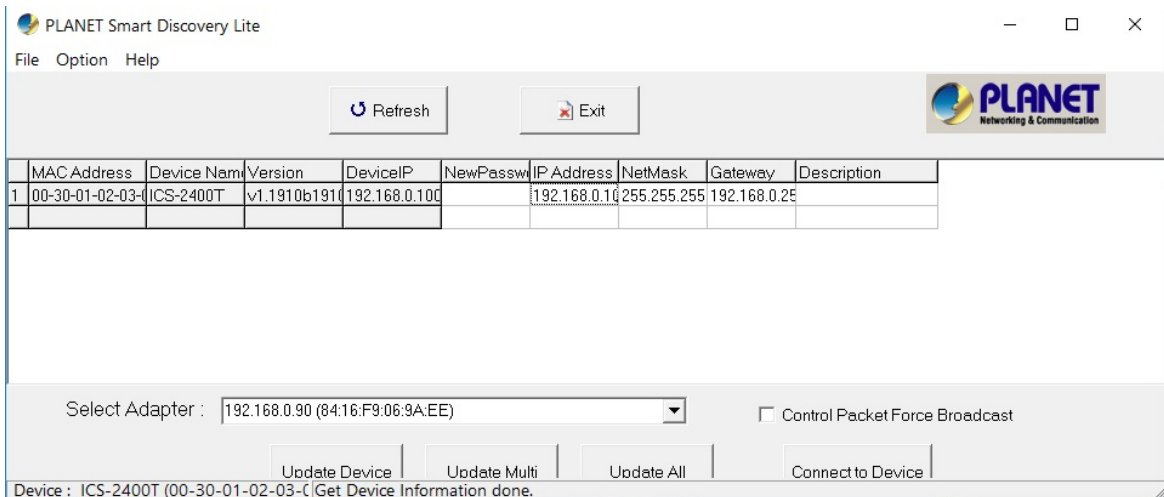

Figure 3-4-2: Planet Smart Discovery Utility Screen
3. Press the **“Refresh”** button for the currently connected devices in the discovery list as shown in Figure 3-4-2:
4. Press the **“Connect to Device”** button and the Web login screen appears as shown in Figure 3-4-2.